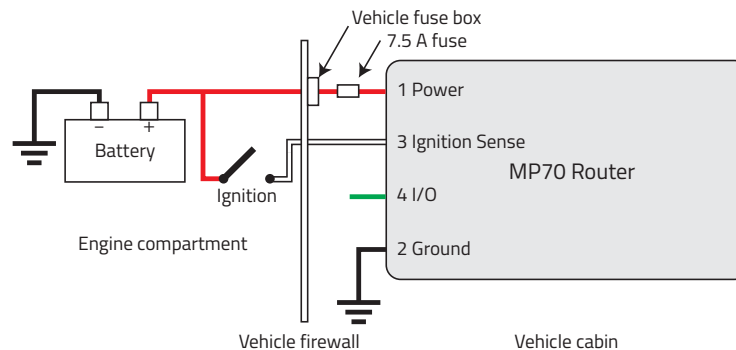

Figure 2-5: Vehicle Installation Option 1
6. Use a 7.5 A, fast blow fuse, recommended to have no more than  $\pm 10\%$  de-rating over the operating temperature range, to connect the red (power) wire on the DC power cable to the vehicle's fuse box. (See Figure 2-5.)